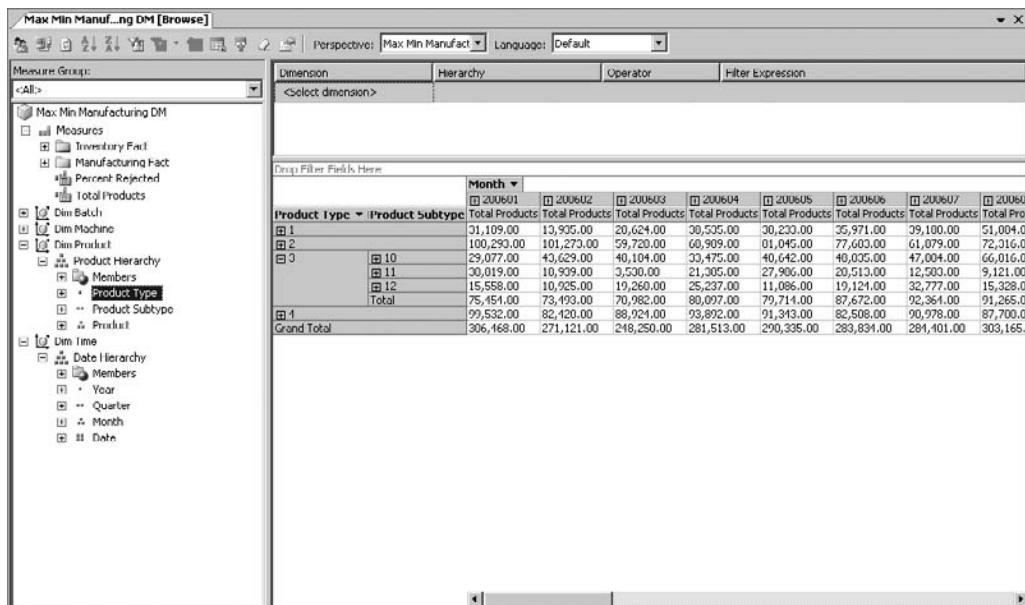

Figure 10-5 Two levels of rows in the Browse window
16. Expand one of the product type codes to view its product subtype codes. This is shown in Figure 10-5.